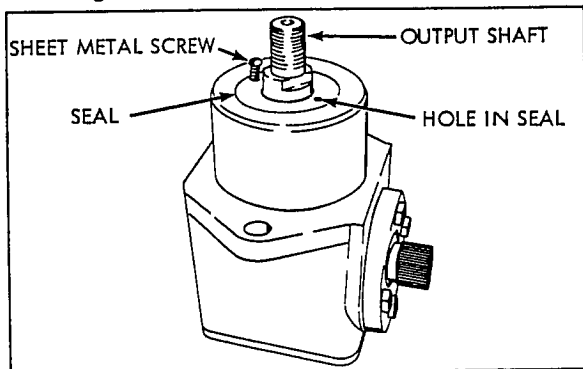

Figure 9-8 Output Shaft Seal Replacement
2. Output shaft seal replacement: (Figure 9-8). Remove the seal by punching two small holes in the seal with an awl as close to the outer edge of the seal as possible and opposite each other. Use care when making holes in seal so that the ball bearing underneath is not damaged. Do not use a drill. Insert sheet metal screws into the holes and pull on the screws to remove the seal. Long screws may be turned in until they contact the outer race of the ball bearing and turned to lift out the seal. Place seal sleeve 670185 on the shaft, lubricate generously with oil and slide on the seal. Drive the seal into the housing until it is flush with the bottom of the housing. Use driver 28679.
4. Remove the seal at the output shaft. See paragraph C of SERVICE above and Figure 9-8.